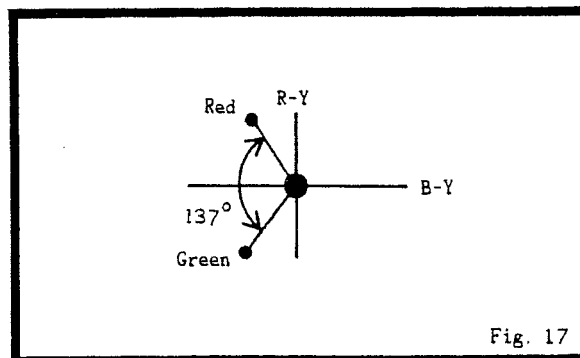

Fig. 17
3. Connect the vectorscope to pin ④ CP4202.
4. Adjust VR8005 so that the angle between red and yellow becomes 137°. (Refer to Fig. 17)